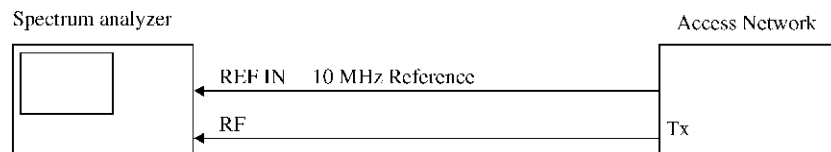

Figure 2-9 Setup for CCDF Measurement
1. Connect the unit under test as shown in Figure 2-9.